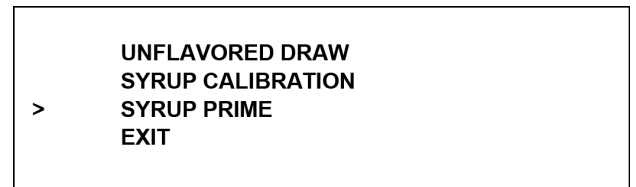

Figure-34
22. Press the Auto symbol  or the optional Flavor symbol  to scroll the arrow to SYRUP PRIME. (See Figure-34.)